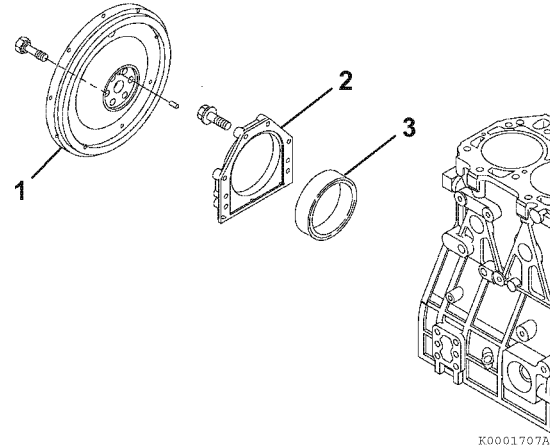

Figure 6-112
3. Remove the rear oil seal (3, **Figure 6-112**) from the seal housing (2, **Figure 6-112**).
4. Apply a continuous bead of ThreeBond Liquid Gasket No. 1212, YANMAR Part No. 977770-01212 to the outside diameter of a new oil seal (2, **Figure 6-112**), and install in the housing. Apply lithium grease to the lip of the seal.